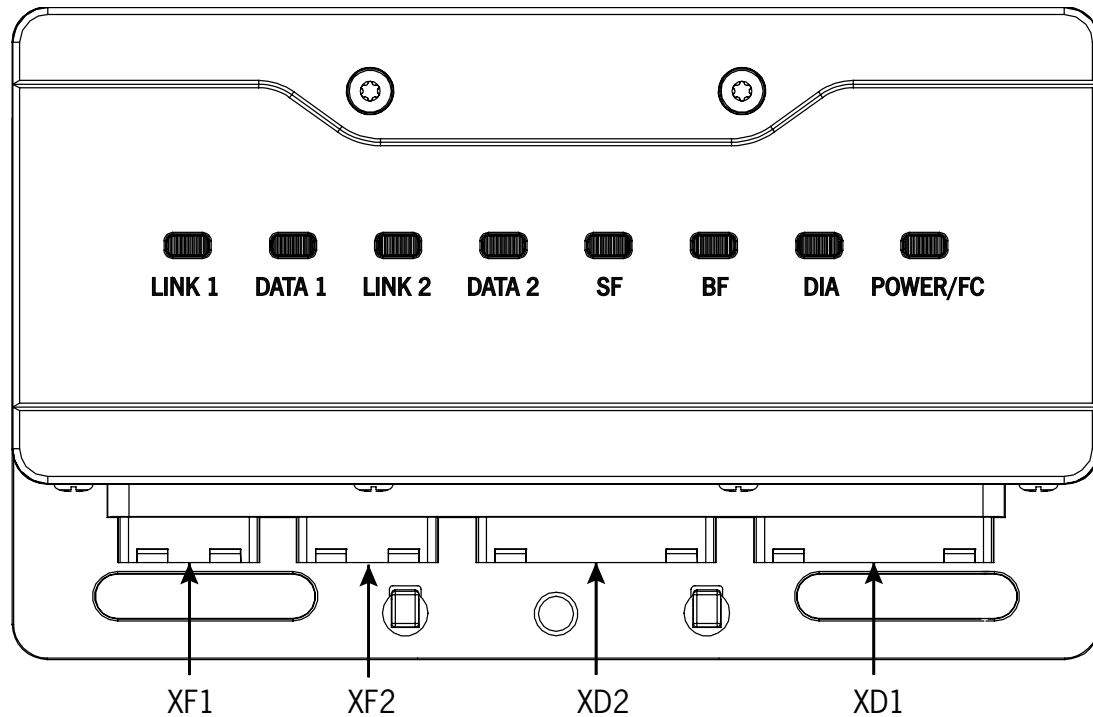

Figure 3: Bus module plug connector
4. Transfer the setting of F_DEST_ADD (DIP switches) to the replacement system. For this purpose, open the cover on the bus module (TX10, figure 3) and set the DIP switches on the replacement system to the value set on the original system.